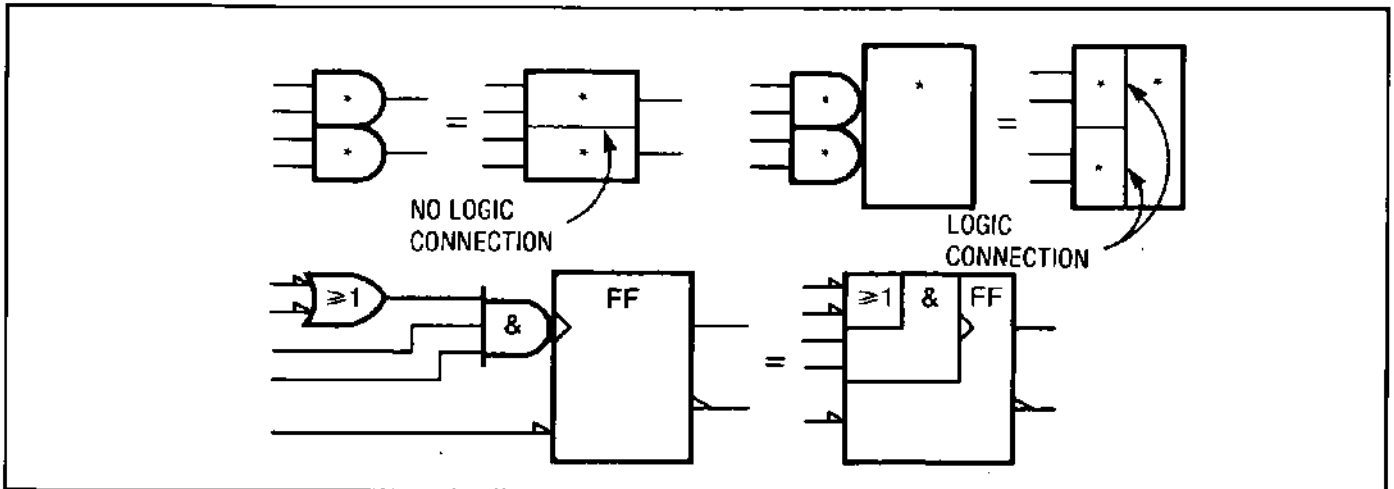

Figure 8-7. Contiguous Blocks
**Contiguous Blocks.** Two symbols may share a common boundary, parallel or perpendicular to the direction of the signal flow. Note that in the examples shown in Figure 8-7, there is generally no logic connection across a horizontal line, but there is always an implied logic connection across a vertical line. Notable exceptions to this rule are the horizontal lines beneath control blocks and between sections of shift registers and counters (dividers).